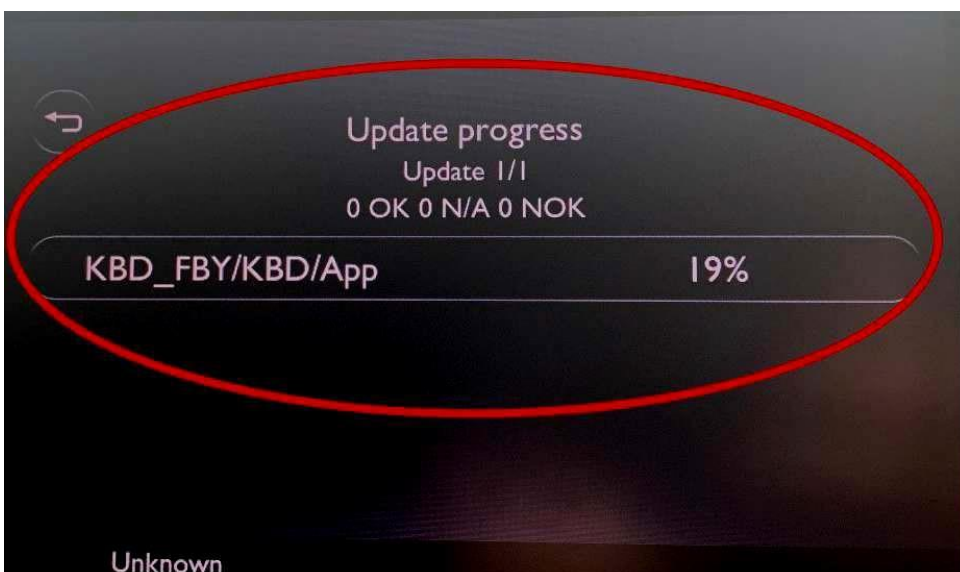

Figure 13
16. The update will now take place, the screen may go blank for short periods, various data will be displayed (Figure 13)